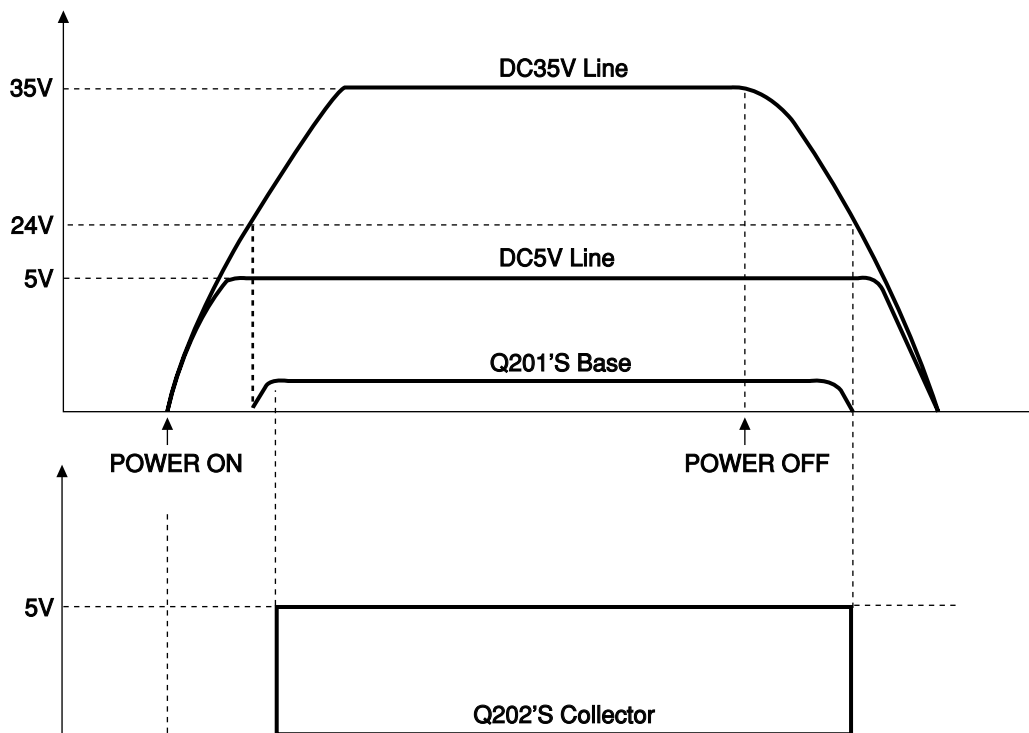

Fig. 2-2
- The waveforms at each point when the power is turned on and off are shown in the Fig. 2-2.